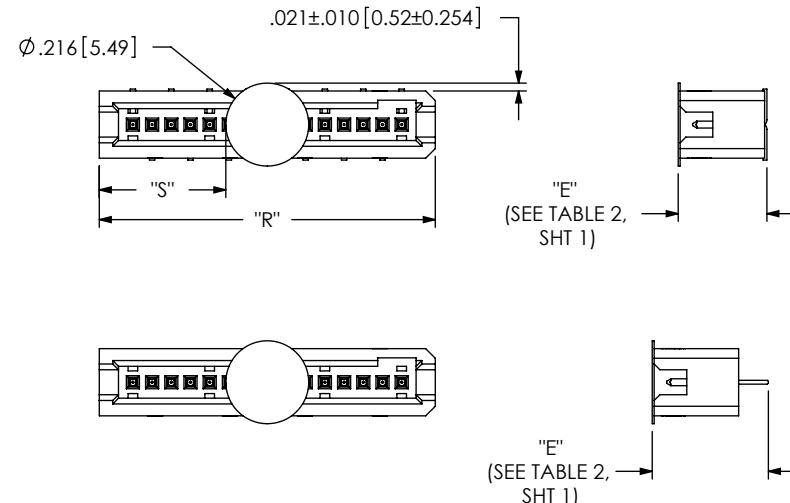

FIG 3
- K: POLYIMIDE FILM (SEE FIG 3, SHEET 2) (USE K-DOT-217-313-.005)